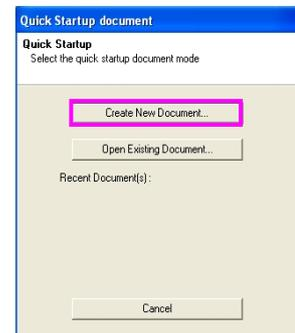

Fig.2
- A **QUICK STARTUP DOCUMENT** window appears (Fig.2).